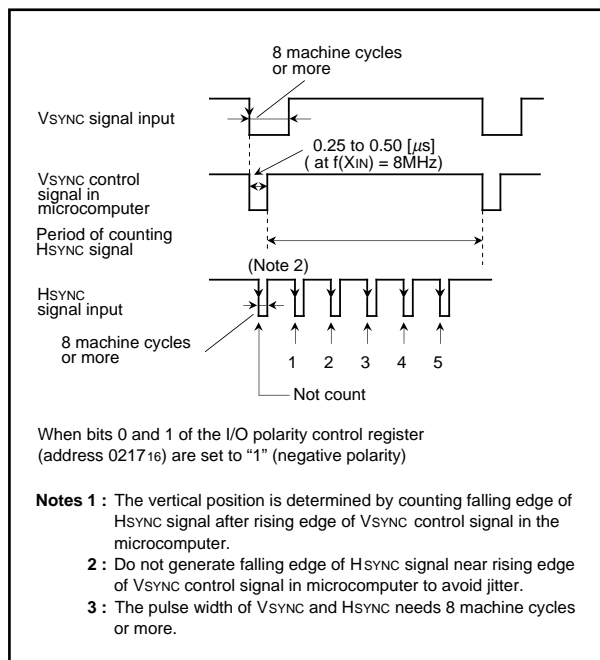

**Fig. 59. Display Position**
- ① When the display position is overlapped with another block (Figure 59, (b)), a lower block number (1 to 12) is displayed on the front.
- ② When another block display position appears while one block is displayed (Figure 59 (c)), the block with a larger set value as the vertical display start position is displayed. However, do not display block with the dot size of 2Tc X 2H or 3Tc X 3H during display period ( \* ) of another block.